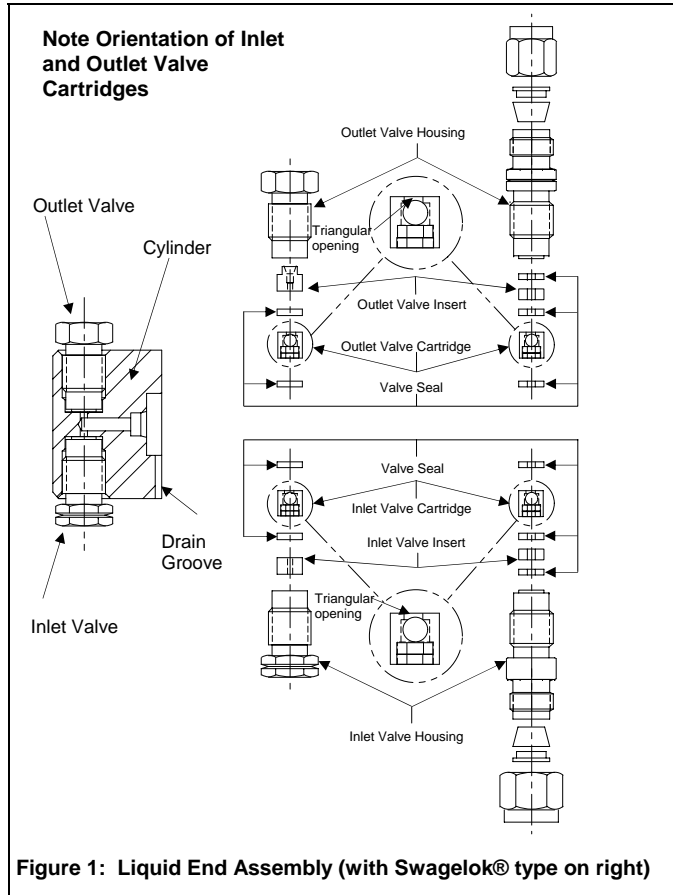

Figure 1: Liquid End Assembly (with Swagelok® type on right)
The valves are the two hexagon-shaped components on the liquid end assembly (see Figure 1). Inlet valves can be distinguished from outlet valves by the groove on the hexagonal part of the valve. To prevent the internal components of the valve from falling out upon removal keep the pump in its normal position and turn the inlet valve and turn the pump upside down when removing the outlet valve (CAUTION: where appropriate, be sure to plug the oil hole on the top of motor gearbox before turning the pump upside down). Remove the valves with a 1/2" wrench, turning in a counter-clockwise direction. After removal, be careful to keep the valve oriented so the translucent washers face upwards. If you wish to replace the cartridge in the valve, you may purchase replacement cartridges which include the cartridge and instructions.
3. Reassemble the valve by placing the valve insert in the valve housing using the larger (3/16") dowel pin provided (1373 and 1374 valves use a total of 3 washers, one is installed before installing the valve insert). Make sure the insert is oriented correctly (see Figure 1). Press one new CTFE seal into place. Slide the valve cartridge into the valve housing making certain it is oriented correctly. Press another new CTFE seal into place. The CTFE seal will extend approximately 0.020 - 0.030" from the valve housing.